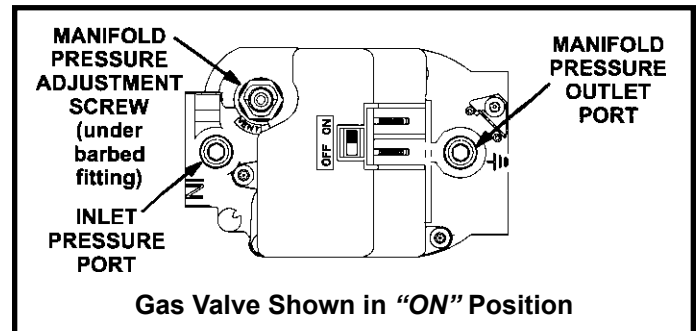

Figure 35
### Gas Valve Operation (Figure 35)
6. Move switch on gas valve to OFF. Do not force. See Figure 35.
8. Move switch on gas valve to **ON**. Do not force. See Figure 35.